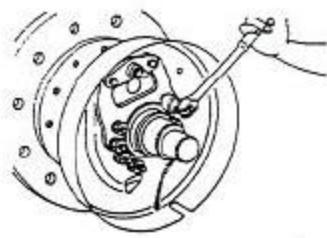

Figure6
(6) Remove the E-shaped retaining ring for the brake cable on the brake base plate ,then remove the bolts that mount the brake base plate and remove the brake base plate from the drive axle .as figure 6